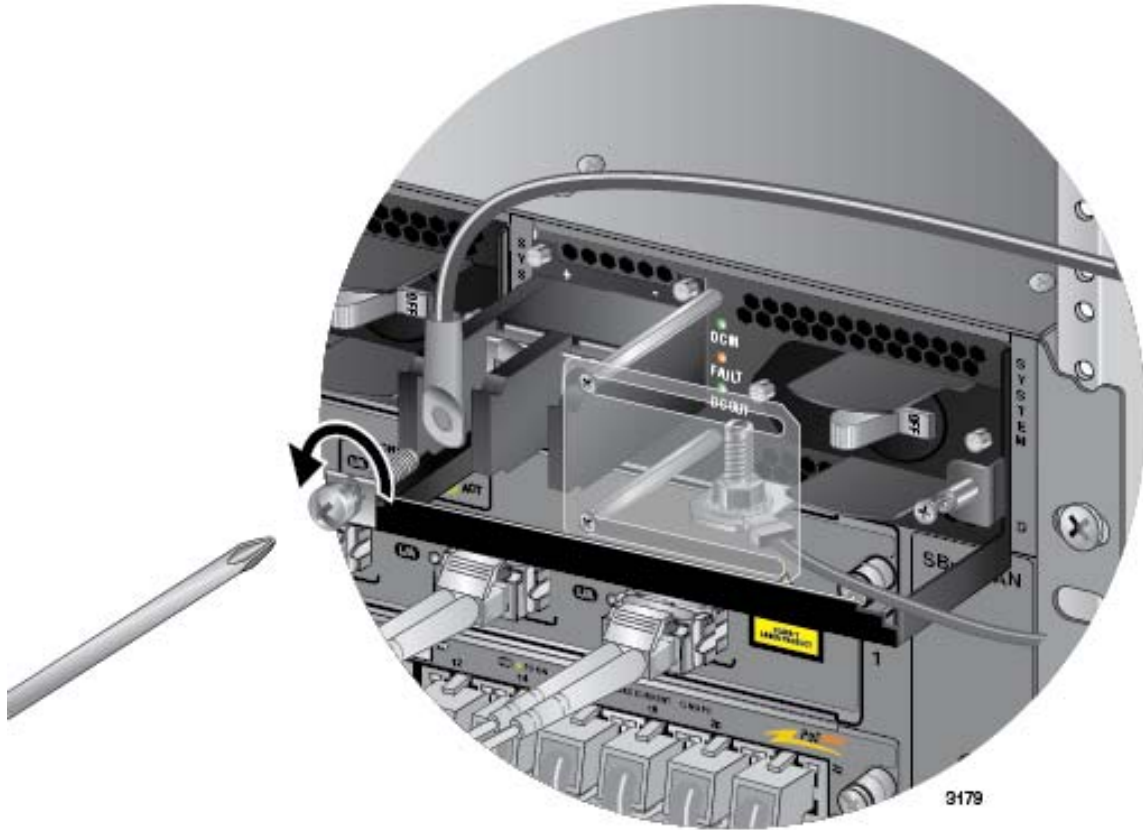

Figure 175. Removing the Positive Lead Wire
6. Use a #3 screwdriver to remove the positive (+) lead wire from the terminal block. Refer to Figure 175 on page 298.